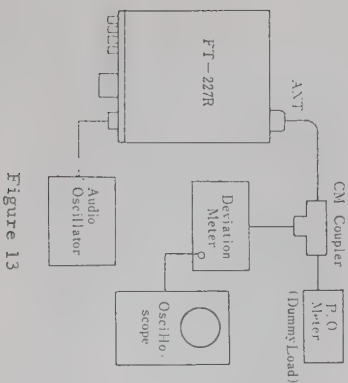

Figure 13
(4) Deviation
- Connect YP-150 to the antenna connector, the output of an audio oscillator between pin 2 (hot) and 1 (ground) of microphone receptacle and a deviation meter as illustrated in Fig. 13. Set the audio output level to 25 mV at 1 kHz.